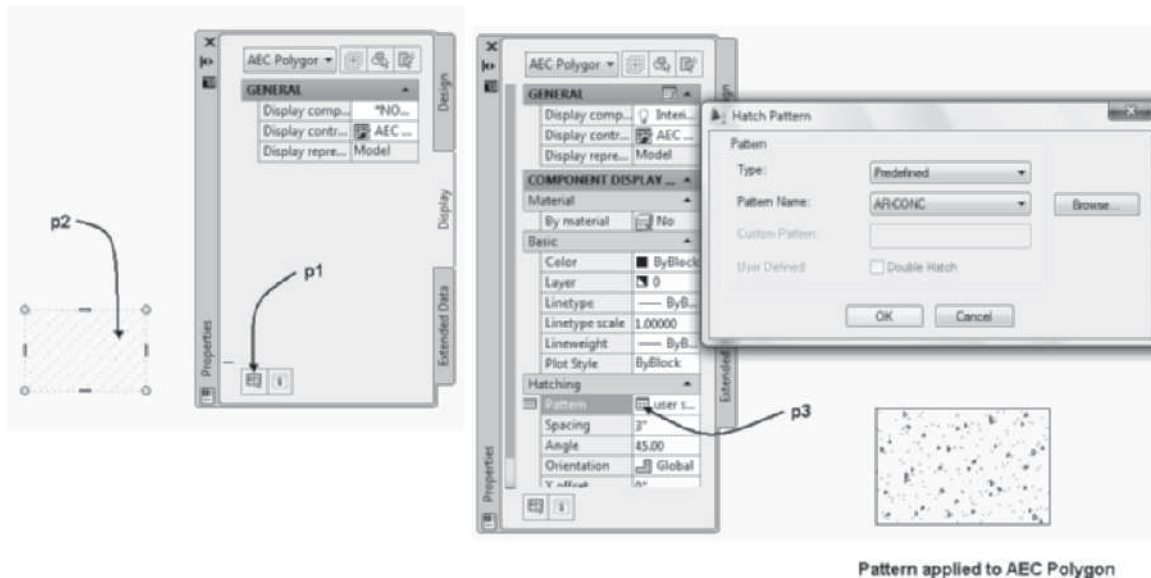

FIGURE 6.49 AEC Polygon Style Properties dialog box
4. Click in the Display component field, and choose Interior Hatch. Toggle the light bulb ON for Interior hatch. Set the **Interior Hatch** component current as shown in Figure 6.49. Click **OK** to dismiss the Modify Display Component at Style Override Level.
5. Choose the Select component button (p1 in Figure 6.49) of the Properties palette, and select the hatch at p2 as shown in Figure 6.49. Click the **Pattern** button (p3 in Figure 6.49) in the Hatching section of the Display tab as shown in Figure 6.49 to open the Hatch Pattern dialog box.
7. Click in the **Scale/Spacing** column of the Interior Hatch display component, and edit the scale factor. The scale factor is set to **1 [1]** as shown in Figure 6.49.